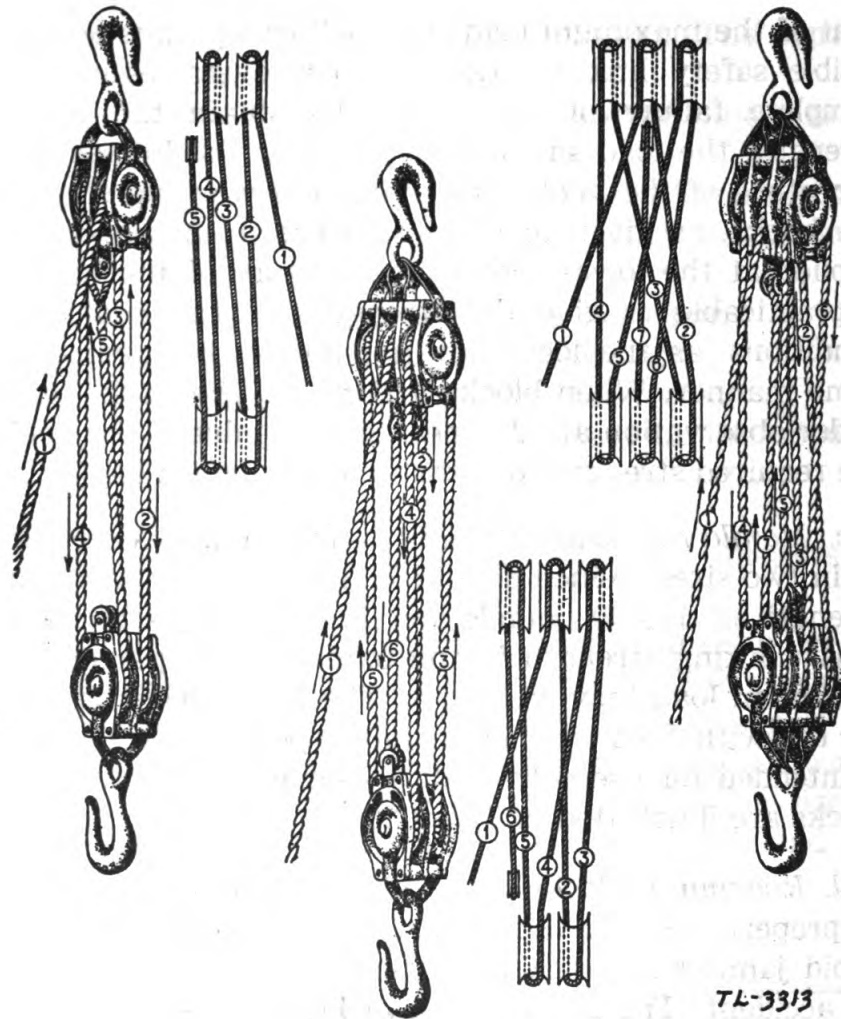

Figure 22
d. Reeving of blocks.—It is important that blocks be reeved properly to have them operate to the best advantage and avoid jamming, which would lose time and possibly cause an accident. The 2- or 3-sheave blocks shall be reeved in either of the ways as shown in figures 22 and 23.
When reeving with new rope, place the rope under slight tension. The fall line should emerge from the center sheave of a 3-sheave block. This causes the hoisting strain to come on the center of the block, preventing it from turning and cutting the rope on the block shell. When reeving by this method, figure 22, the sheaves of the two blocks should be placed at right angles to each other.
Where there is a possibility of the rope being tangled, when reeving by the method shown in figure 22, the blocks may be reeved left over right, as shown in figure 23.
Operation 2.—Reeve the two 3-sheave blocks as shown in figure 22.
Operation 3.—Reeve the 3-sheave and the 2-sheave block as shown in figure 22.
Operation 4.—Reeve the two 2-sheave blocks as shown in figure 22.